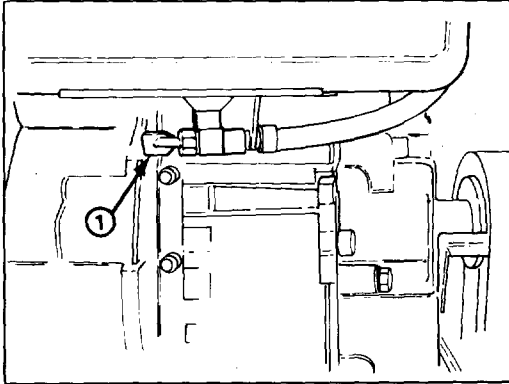

Figure 11
Fuel Shut-Off Valve (Fig. 11) — Valve is located under fuel tank. Close valve to stop fuel flow from fuel tank and open valve to allow fuel to flow to the carburetor. Close valve when snow-thrower is not used.
2. Open fuel shut-off valve below fuel tank (Fig. 11).